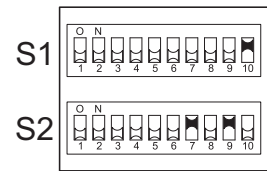
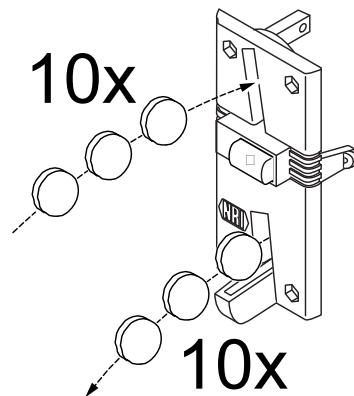

Fig. 21
Fig. 22
1. The following DIL switches on Switch Block S2 should be facing upwards and switch to ON (fig. 21).
- b) Then, switch S2-7 coin channel 6 (TM) to ON
2. Insert a minimum of ten tokens (Fig. 22). These ten tokens should not be the same. After the ten tokens have been inserted the (internal) reject coil will be automatically drawn.
4. Service menu: change coin channel 6 (menu item 2.5 Payment system) from €2 to TOKEN.